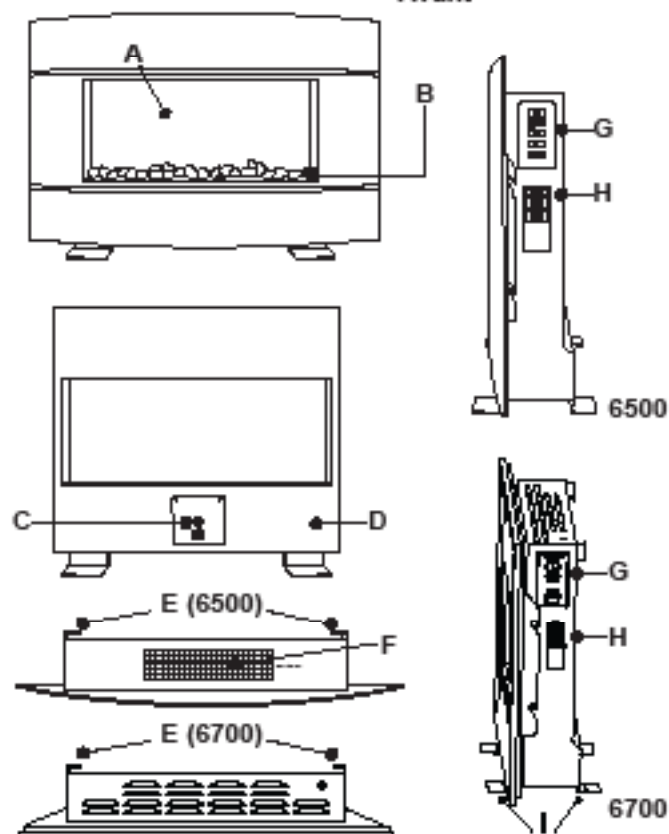

Figure 2
1. Turn main unit ON/OFF Switch to position (O) (see Fig. 2, N)
4. Turn main unit ON/OFF Switch to position (→) (see Fig. 2, N)